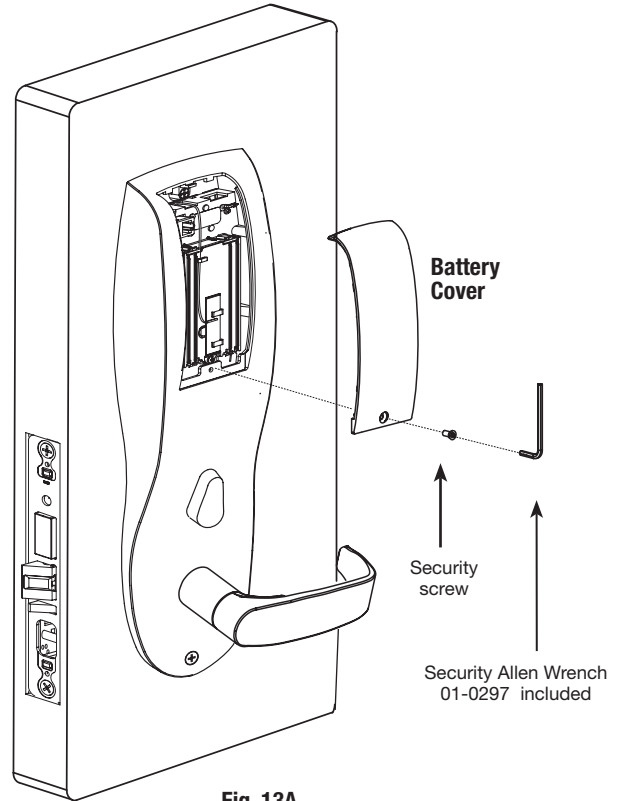

Fig. 13A
1. To install or replace batteries, first remove the battery cover (if necessary) using the provided security tool (Fig.13A).
6. Secure with the security screw using tool. (Fig. 13A).